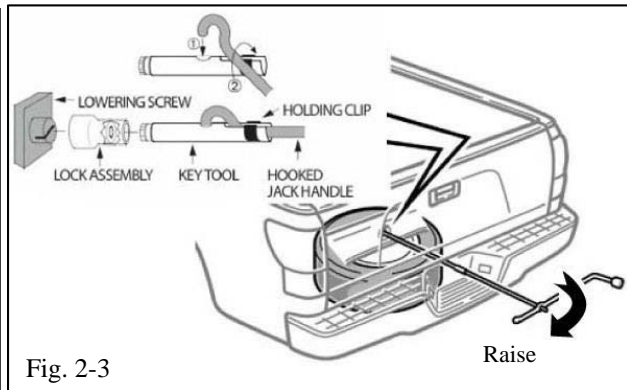

Fig. 2-3
- (c) Insert the extension rod with key through the access hole in the rear bumper (Fig. 2-3).